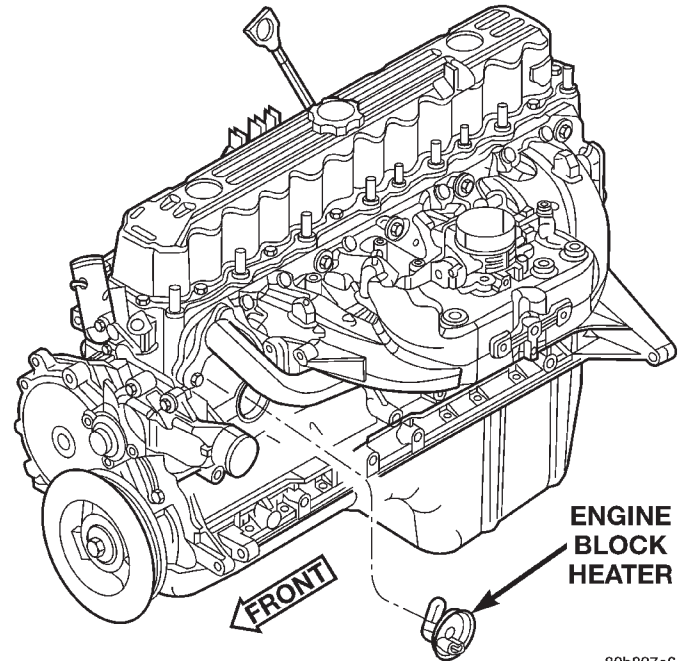
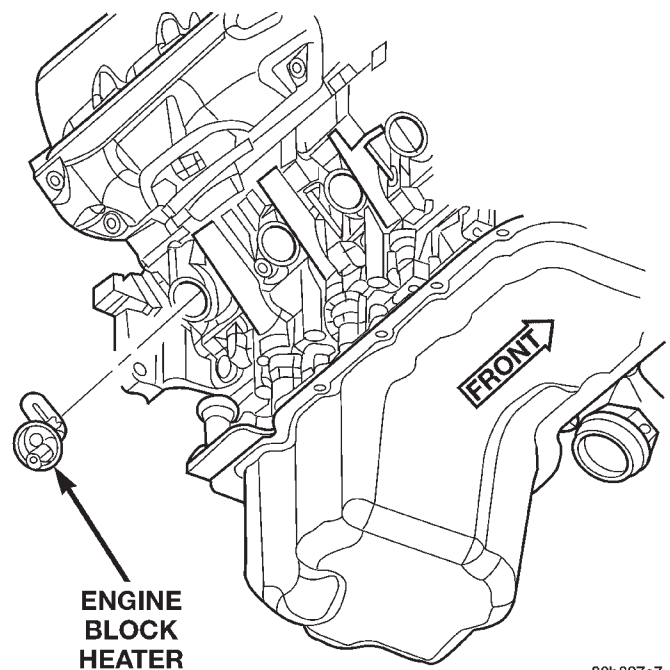

Fig. 54 Engine Block Heater—4.0L
Fig. 55 Engine Block Heater—4.7L
(6) Loosen screw at center of block heater. Remove heater assembly (Fig. 54) (Fig. 55).
- (1) Thoroughly clean cylinder block core hole and block heater seat.
- (2) Insert block heater assembly with element loop pointing at twelve o'clock (Fig. 54) (Fig. 55).
- (3) With block heater fully seated, tighten center screw to 2 N·m (17 in. lbs.) torque.
- (4) Fill cooling system with recommended coolant.